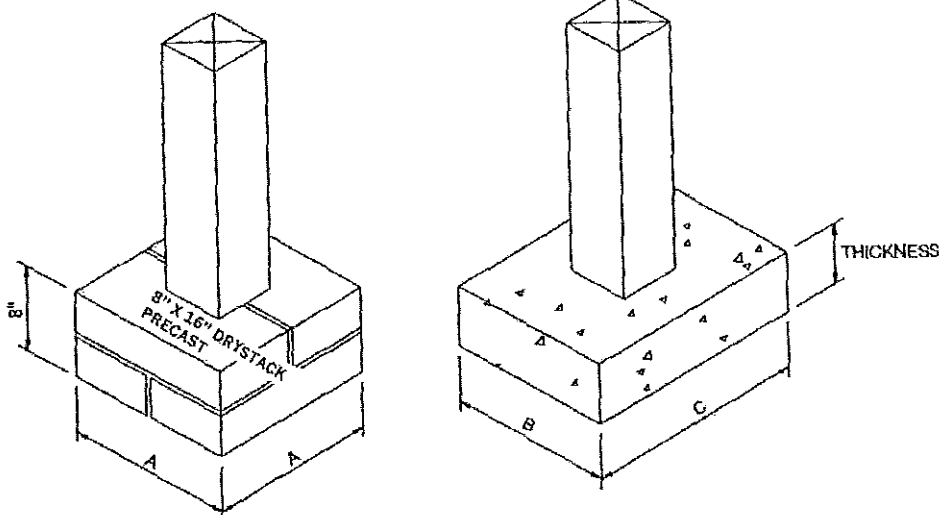

FIGURE AM102
**AM102.1 Footers.** Support post shall be supported by a minimum footing per Figure AM102 and Table AM102.1. Minimum footing depth shall be 12-inches below finished grade per Section R403.1.4. Tributary area is calculated per Figure AM102.1.